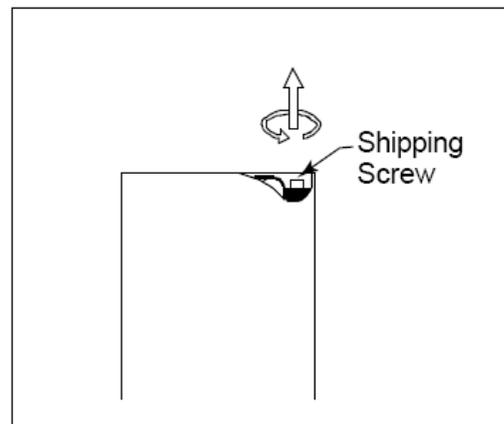

Figure 2
5. Use a $5/32''$ Hex Wrench to remove the Counterbalance Shipping Screw. (See Figure 2) Replace the screw in the tapped hole next to the one from which it was removed.